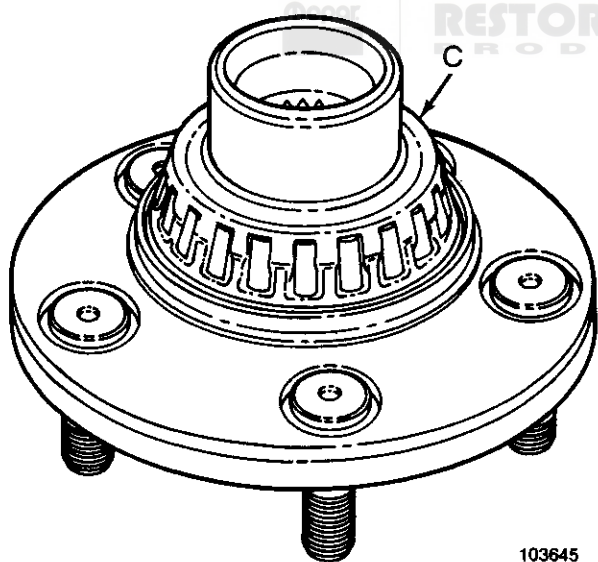

Fig. 5
4. Cut and remove the plastic bearing cage (C) (Fig. 5) from the hub inner bearing. Use diagonal pliers or tin snips to cut the bearing cage. Discard the bearing rollers after removing the cage.